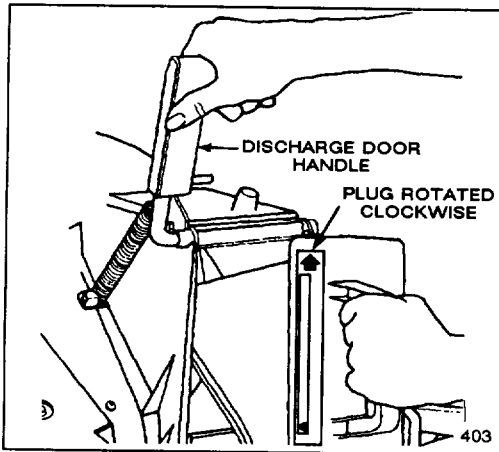

Figure 12
1. Make sure engine is off. Open the discharge door by pulling forward on the handle and moving it rearwards (Fig. 12). Hold the discharge door handle to prevent the spring-loaded door from closing while inserting the plug.
2. Since the plug is slightly wider than the discharge tunnel opening, you must rotate the plug clockwise slightly while inserting it (Fig. 12). Make sure the arrow on the plug decal is pointing upwards.